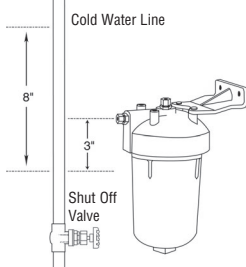

Figure 5
- Measure down from the centerline of the filter inlet about 3" and mark the tube. From this mark, measure up 8" and mark the tube. This is the section of the tube to be removed. If necessary, because of tight quarters, additional tube can be cut away. (Figure 5)